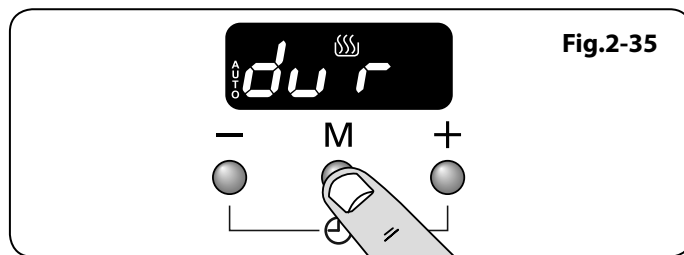

Fig.2-35
1. Press the mode [M] button until the display flashes (dur) (Fig.2-35). Then set the 'cook period' using the [+] or [-] buttons.